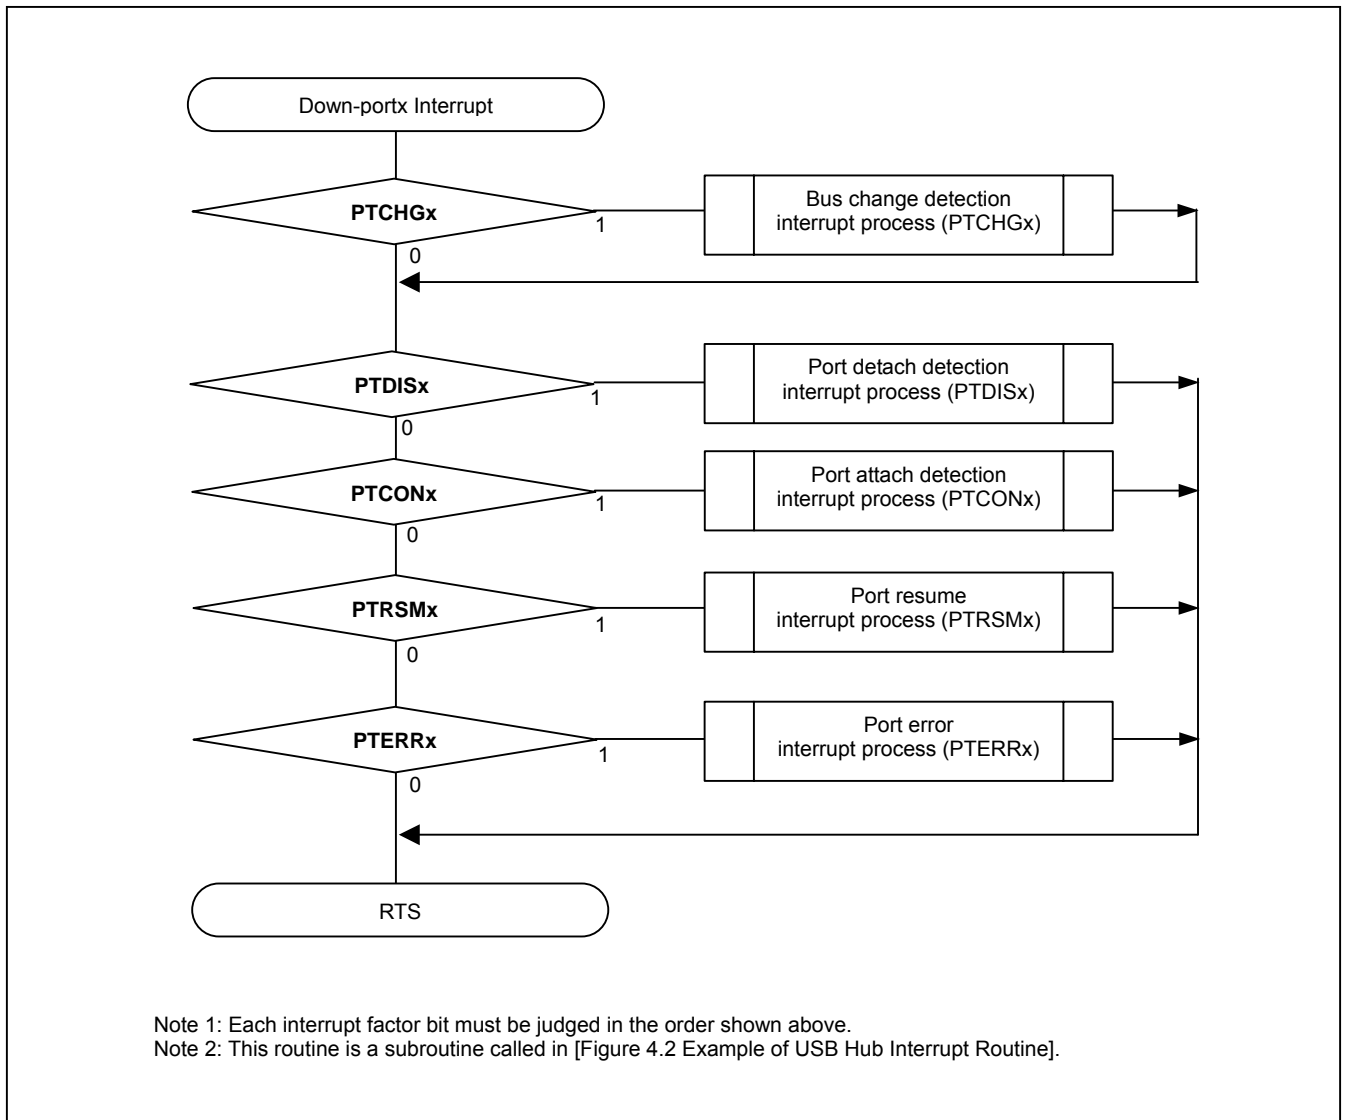

Figure 4.4 Example of Down-portx Interrupt Routine
- An example of an interrupt routine is shown in Figure 4.4.
Figure 4.4 shows an example of the down-portx interrupt routine.